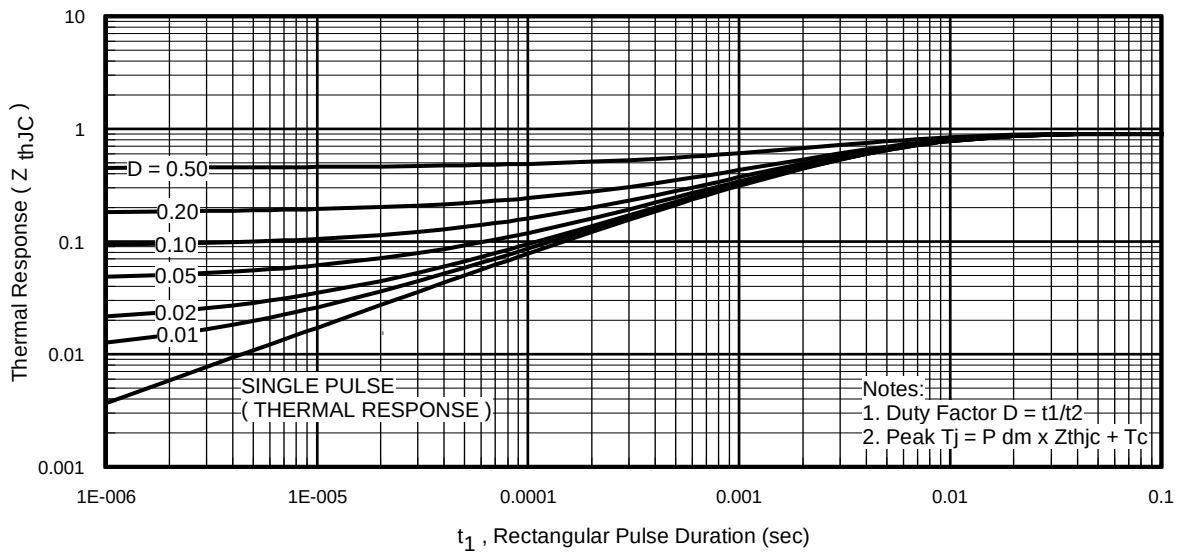
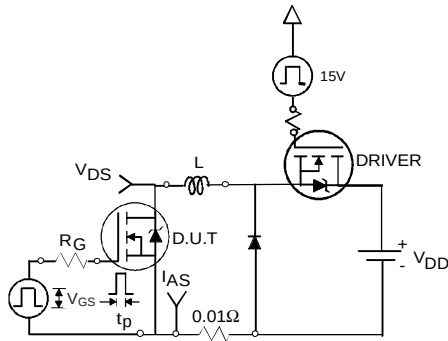

Fig 11. Maximum Effective Transient Thermal Impedance, Junction-to-Case
Fig 12a. Unclamped Inductive Test Circuit
- ① Repetitive rating; pulse width limited by max. junction temperature. (See fig. 11).
- ② Limited by T_{Jmax} , starting $T_J = 25^\circ\text{C}$, $L = 0.12\text{mH}$, $R_G = 25\Omega$, $I_{AS} = 53A$, $V_{GS} = 10V$. Part not recommended for use above this value.
- ③ $I_{SD} \leq 53A$, $di/dt \leq 420A/\mu s$, $V_{DD} \leq V_{(BR)DSS}$, $T_J \leq 175^\circ\text{C}$.
- ④ Pulse width $\leq 1.0\text{ms}$; duty cycle $\leq 2\%$.
- ⑤ $C_{oss \text{ eff.}}$ is a fixed capacitance that gives the same charging time as C_{oss} while V_{DS} is rising from 0 to 80% V_{DSS} .
- ⑥ Limited by T_{Jmax} , see Fig.12a, 12b, 15, 16 for typical repetitive avalanche performance.
- ⑦ This value determined from sample failure population. 100% tested to this value in production.
- ⑧ This is applied to D²Pak, when mounted on 1" square PCB (FR-4 or G-10 Material). For recommended footprint and soldering techniques refer to application note #AN-994.
3. Equation below based on circuit and waveforms shown in Figures 12a, 12b.
$Z_{thJC}(D, t_{av})$ = Transient thermal resistance, see figure 11)